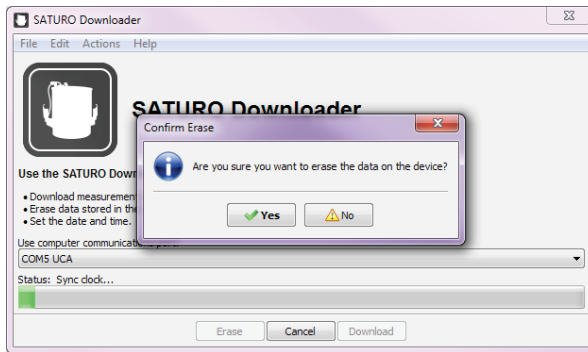

Figure 9 Confirm Erase prompt
5. After the download is complete, a prompt will ask if the data stored on the device should be erased (Figure 9).